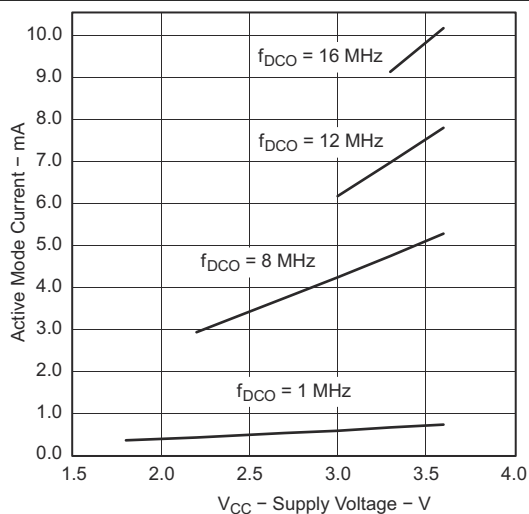
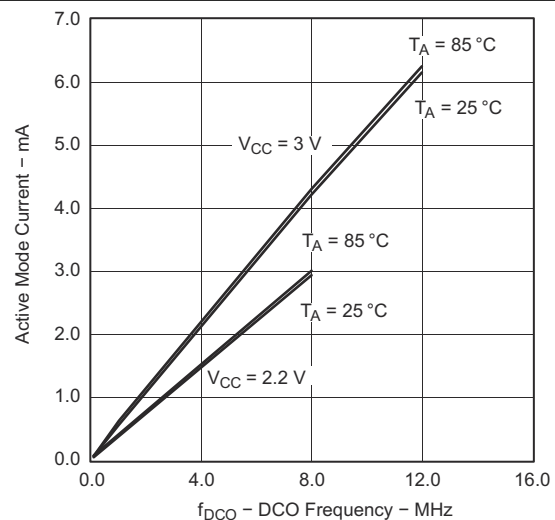

Figure 8-2. Active Mode Current vs Supply Voltage ($T_A = 25^\circ\text{C}$)
Figure 8-3. Active Mode Current vs DCO Frequency
over recommended ranges of supply voltage and operating free-air temperature (unless otherwise noted)^{(1) (2)} (see Figure 8-2 and Figure 8-3)